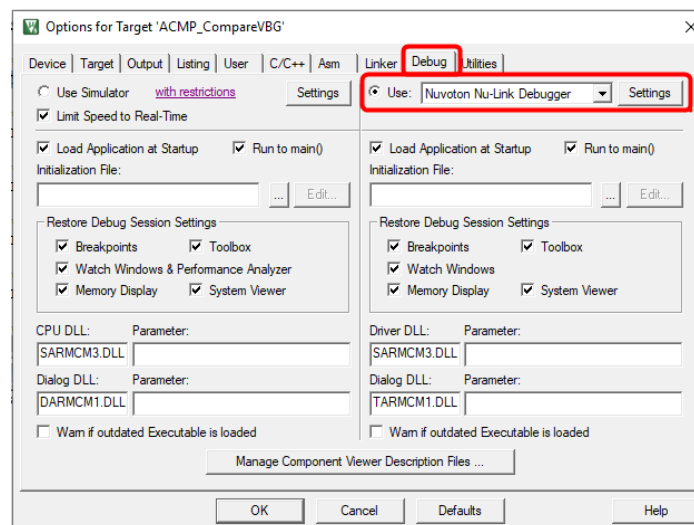

Figure 4-10 Keil MDK Debugger Selection
Step 4: Invoke **Project** → **Options for Target** → **Debug**, and make sure the **Use: Nuvoton Nu-Link M0 Debugger** option is checked, as shown in Figure 4-10.